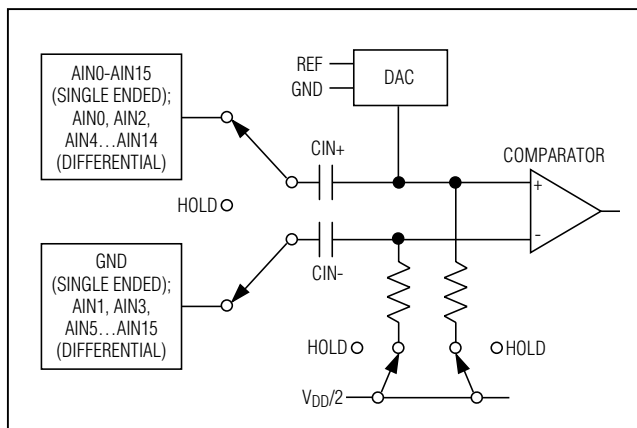

Figure 3. Equivalent Input Circuit
**Note 6:** See Figure 3 (Input Equivalent Circuit) and the *Sampling Error vs. Source Impedance* curve in the *Typical Operating Characteristics* section.
The MAX1227/MAX1229/MAX1231 use a fully differential ADC for all conversions. The analog inputs can be configured for either differential or single-ended conversions by writing to the setup register (see Table 3). Single-ended conversions are internally referenced to GND (see Figure 3).
The equivalent circuit of Figure 3 shows the MAX1227/MAX1229/MAX1231s' input architecture. In track mode, a positive input capacitor is connected to AIN0–AIN15 in single-ended mode (and AIN0, AIN2, AIN4...AIN14 in differential mode). A negative input capacitor is connected to GND in single-ended mode (or AIN1, AIN3, AIN5...AIN15 in differential mode). For external T/H timing, use clock mode 01. After the T/H enters hold mode, the difference between the sampled positive and negative input voltages is converted. The time required for the T/H to acquire an input signal is determined by how quickly its input capacitance is charged. If the input signal's source impedance is high, the required acquisition time lengthens. The acquisition